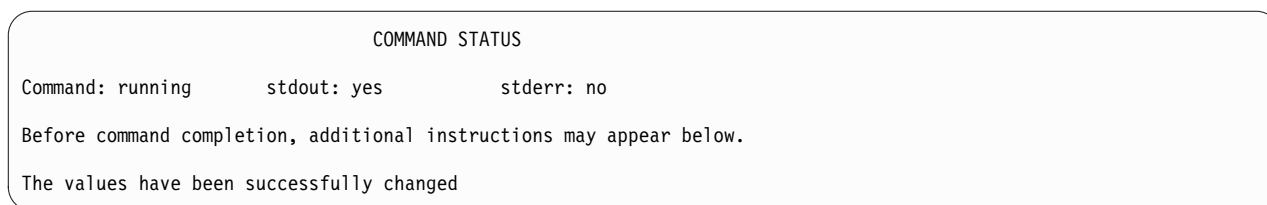

Figure 146. COMMAND STATUS Screen – Running
8. At Figure 145, press **Enter**. A COMMAND STATUS screen (Figure 146 on page 120) displays showing that a command is running.
9. The Command Status screen (Figure 146) displays for as long as five minutes. It is normal for there to be no response for this period of time. **DO NOT press any keys** while the command is running.